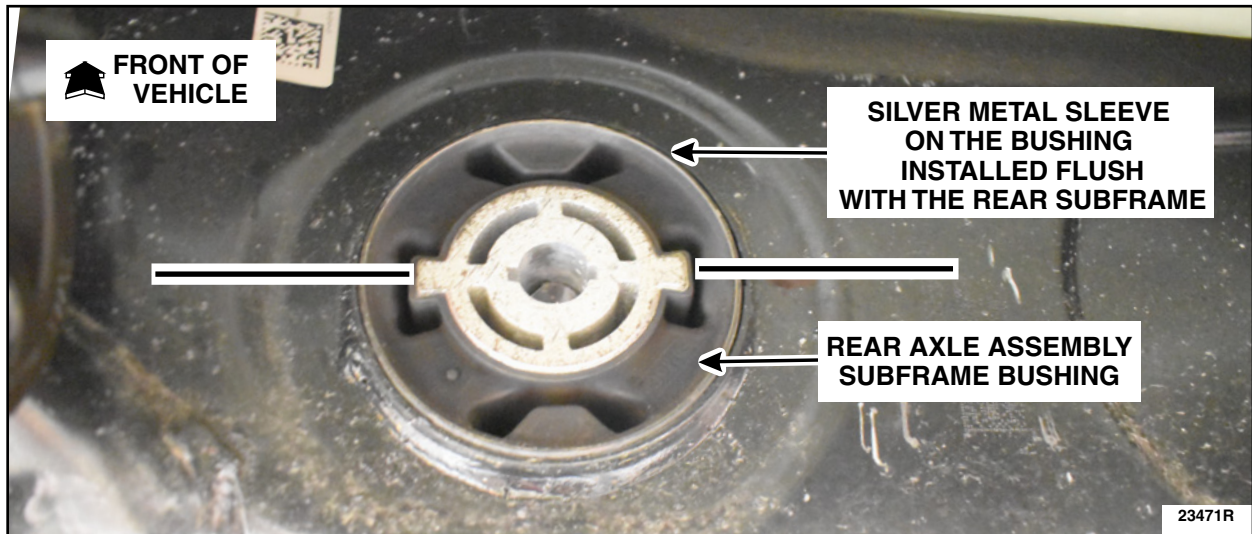

FIGURE 16
NOTICE: Make sure the tabs on the *new* rear axle assembly subframe bushing are horizontal with the subframe. See Figure 16.
23. Using the ESST tools listed below, install the *new* rear axle assembly subframe bushing. See Figures 16 and 17.